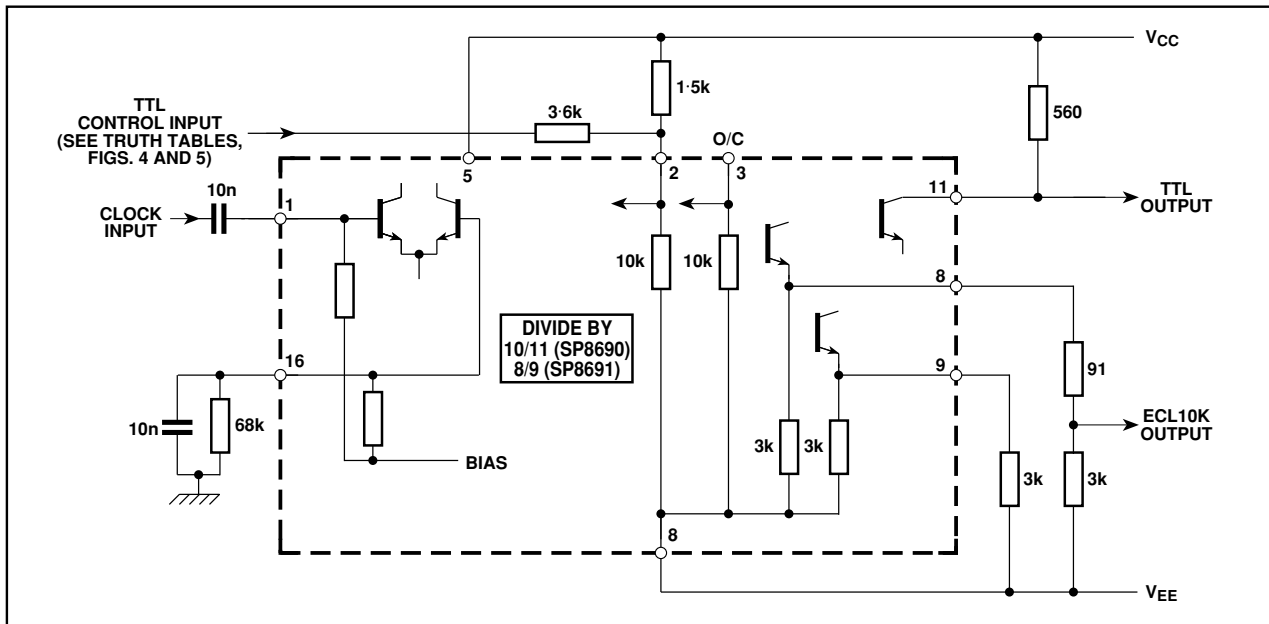

Fig. 9 Typical application showing interfacing.
2. In the absence of a signal the device will self-oscillate. If this is undesirable, it may be prevented by connecting a 68kΩ resistor from the input to V_{EE} i.e., from pin 1 or pin 16 in Fig. 9. This reduces the input sensitivity by approximately 100mV.
4. The Q₄ and Q₄ outputs are compatible with ECLII but can be interfaced to ECL10K as shown in Fig. 9.